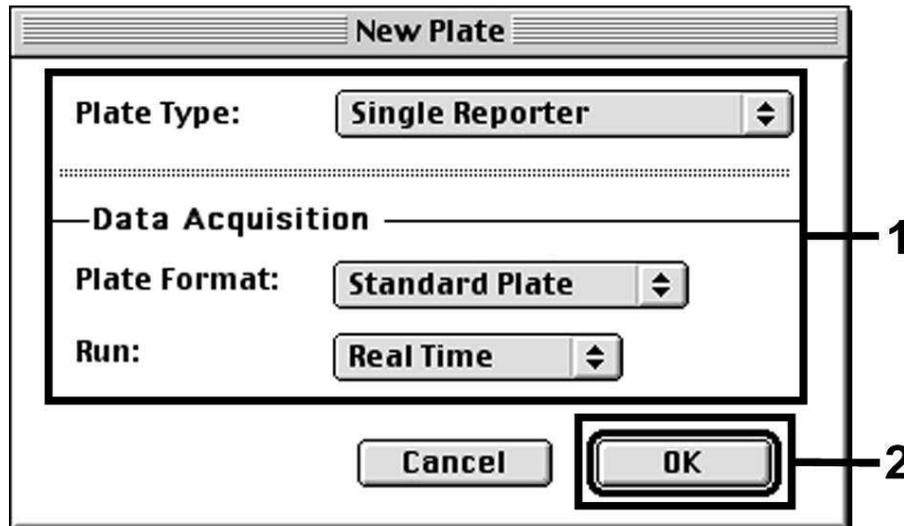

Fig. 9: Pre-settings for creating a new PCR run (*New Plate*).
Select the item *New Plate* from the *File* menu on the *ABI PRISM 7700 SDS* and programme the following initial settings for the new document (see Fig. 9). Confirm the pre-settings (OK).